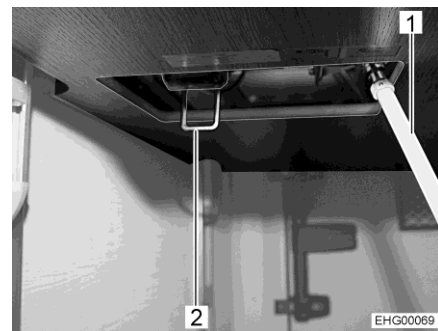

Fig. 109 Crank in the rear garage
- ▷ Before using the bed, make sure that the lever of the locking device (Fig. 109,2) is in the locked position (horizontal).
- Plug crank (Fig. 109,1) onto the journal of the drive.
- Swivel the lever (Fig. 109,2) downwards into vertical position.
- To lift the bed: Turn the crank (Fig. 109,1) clockwise.
- To lower the bed: Turn crank (Fig. 109,1) in an anticlockwise direction.
- Swivel the lever (Fig. 109,2) upwards into horizontal position.